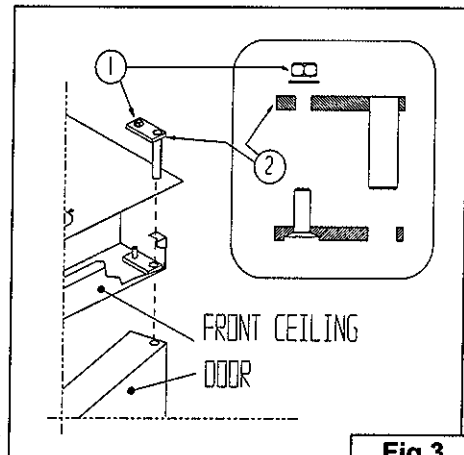

Fig.3
To remove the door from its housing (fig. 3), unscrew the bolt **pos. 1** and remove the plate **pos. 2**.